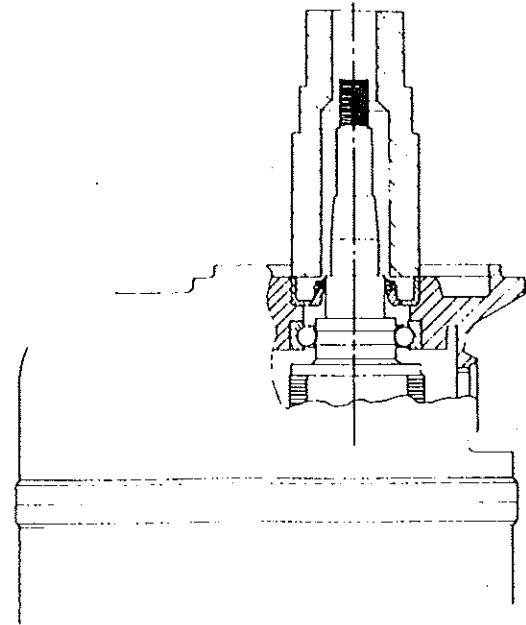

Figure 912. Installing Oil Seal
- A. Wipe lip of new oil seal (59) with SAE No. 30 oil. Carefully slide oil seal onto magnet shaft, avoiding contact with threads or keyway, and position seal squarely at edge of recess in housing. Place magnet in an arbor press with contact compartment rim supported by a block of wood and press oil seal into position with the 11-6924-1 Pressing Tool. See Figure 912
- B. Rest cam securing screw on wooden block and press new oil deflector (55) up against sleeve bearing using the 11-6924-1 Pressing Tool.
*After installing oil seal and deflector, check torque of cam securing screw (61) for 21 to 25 lb-in. to make sure cam washer (62) did not deform during pressing operation. Replace washer, if deformed.*